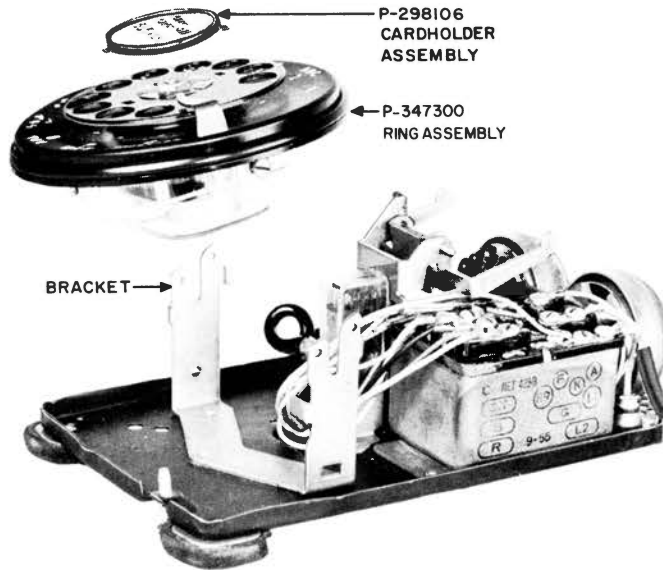

Fig. 24 — Dial Assembly
4.04 The dial is attached to the dial mounting bracket with two or three screws. The new-type dial bracket assembly does not have a front mounting attachment (see Fig. 24).